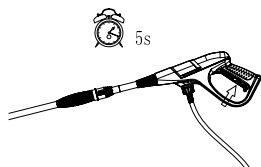

Figure 9
3. Depress the trigger **16** until a steady flow of water is dispensed (see **fig. 9**). Then let go of the trigger.